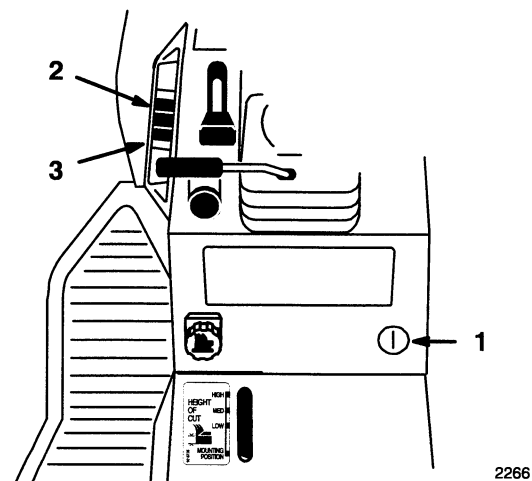

Figure 19
The attachment power lift (on some models) (Fig. 19) is used to raise and lower attachments.
1. Turn key to the “ON” or “RUN” position (Fig. 19).
2. Push the lift switch in the “UP” direction to raise the attachment lift (Fig. 19). This will lift and hold the attachment in the up, or raised position.
2. Push the lift switch in the “DOWN” direction to lower the attachment lift (Fig. 19). This will lower the attachment lift.